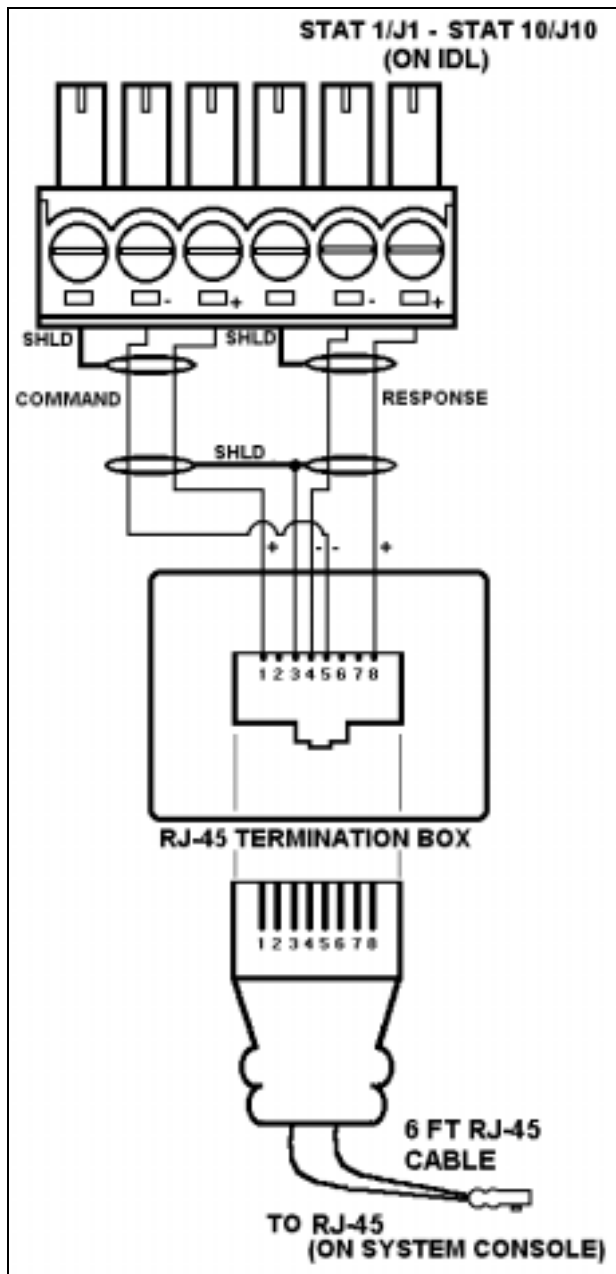

Figure 6
1. Fabricate the cable as described above. Connect the 6 dressed wires to the RJ-45 Termination Box as shown in Figure 6.
2. Connect the System Console (RJ-45 connector) end of the 6-foot cable to the RJ-45 connector on the System Console, as shown in Figure 6.